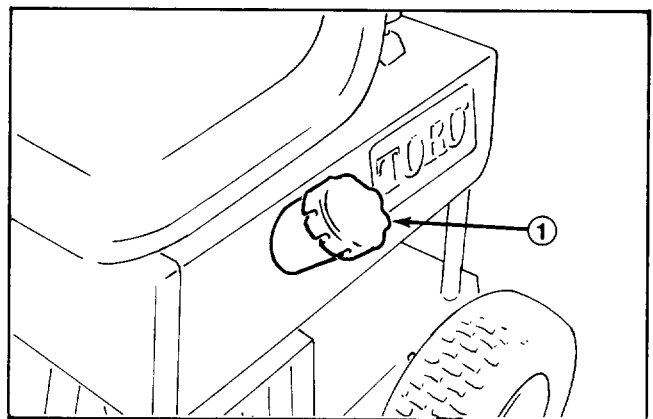

Figure 12
5. Remove drain plug from elbow (Fig. 12).
1. Clean area around fuel tank cap so foreign matter cannot enter filler hole when cap is removed. Next, remove cap from fuel tank (Fig. 12).